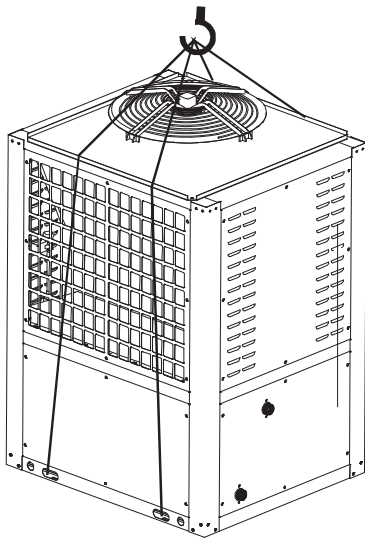

Figure 6. Lifting diagram
1. To lift the unit, use more than 4 soft lifting straps (See Figure 6).
- do not hook transport straps onto the inlet and outlet pipes during unit transportation. You can only hook them onto the mounting holes of the base beam (See Figure 6);